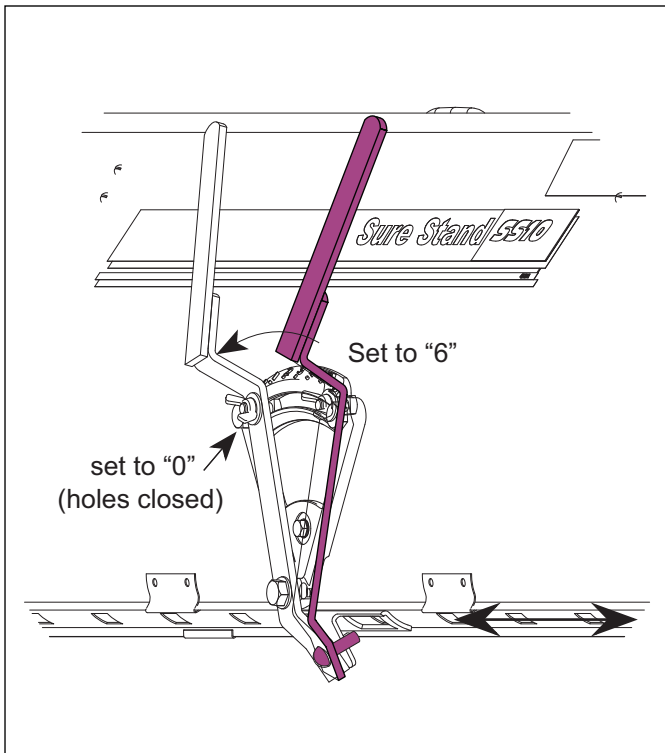

Figure 4-9: Control handle at 6
2. Move the handle to "0". Holes in the box should be completely covered. If not, continue to step 3. See **Figure 4-9**.